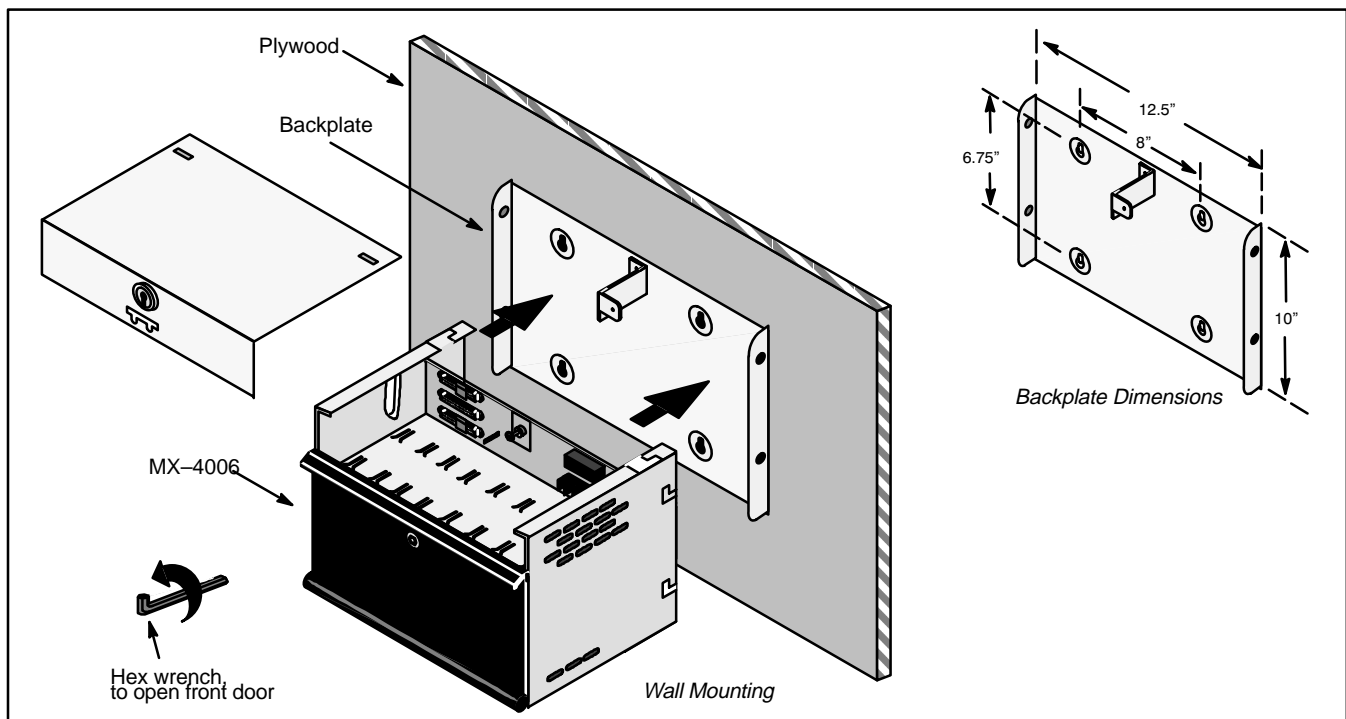

Figure 5. Wall-mounting the M( )-4006
The M( )-4006 comes equipped with a metal wall-mount backplate and mounting hardware. The backplate contains 4 posts, 2 on each side flange, upon which the assembly is mounted. Secure the backplate to a wood backboard or studs. See Figure 5.
The following procedure is suggested for easy wall-installation of the M( )-4006 after the unit has been removed from its packaging and the mounting location on the wall is known. Also see Figure 5.
3.	Mount Backplate. Using the backplate as a template, mark the desired mounting locations. Drill pilot holes and attach the backplate to the backboard with the four #10 X 3/4" PHS wood screws provided. See Figure 5 for the backplate and drill hole dimensions.
4.	Mount Assembly To Backplate. Align the slots in the rear of the mounting assembly with the corresponding posts on the mounting bracket; push assembly back as far as it will go, then carefully press down on the assembly, until it is properly seated. Further secure the assembly to the backplate with the 'thumb screw' located at the rear top center of the mounting assembly. Refer to Figure 2, Figure 3, and Figure 5.